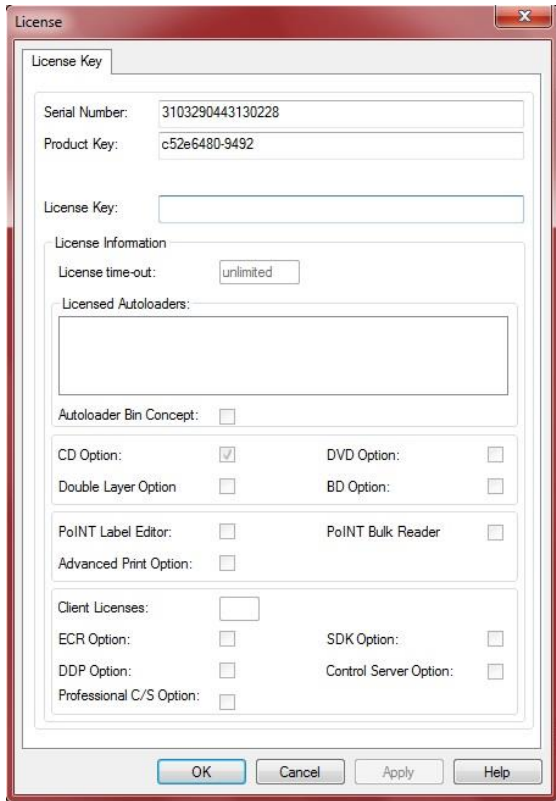

fig.1
- Go to Configuration > License Key > and copy the Serial Number and Product key into the file “License.txt” and email the file over to sales@allprosolutions.com to have your software activated. (fig.1)